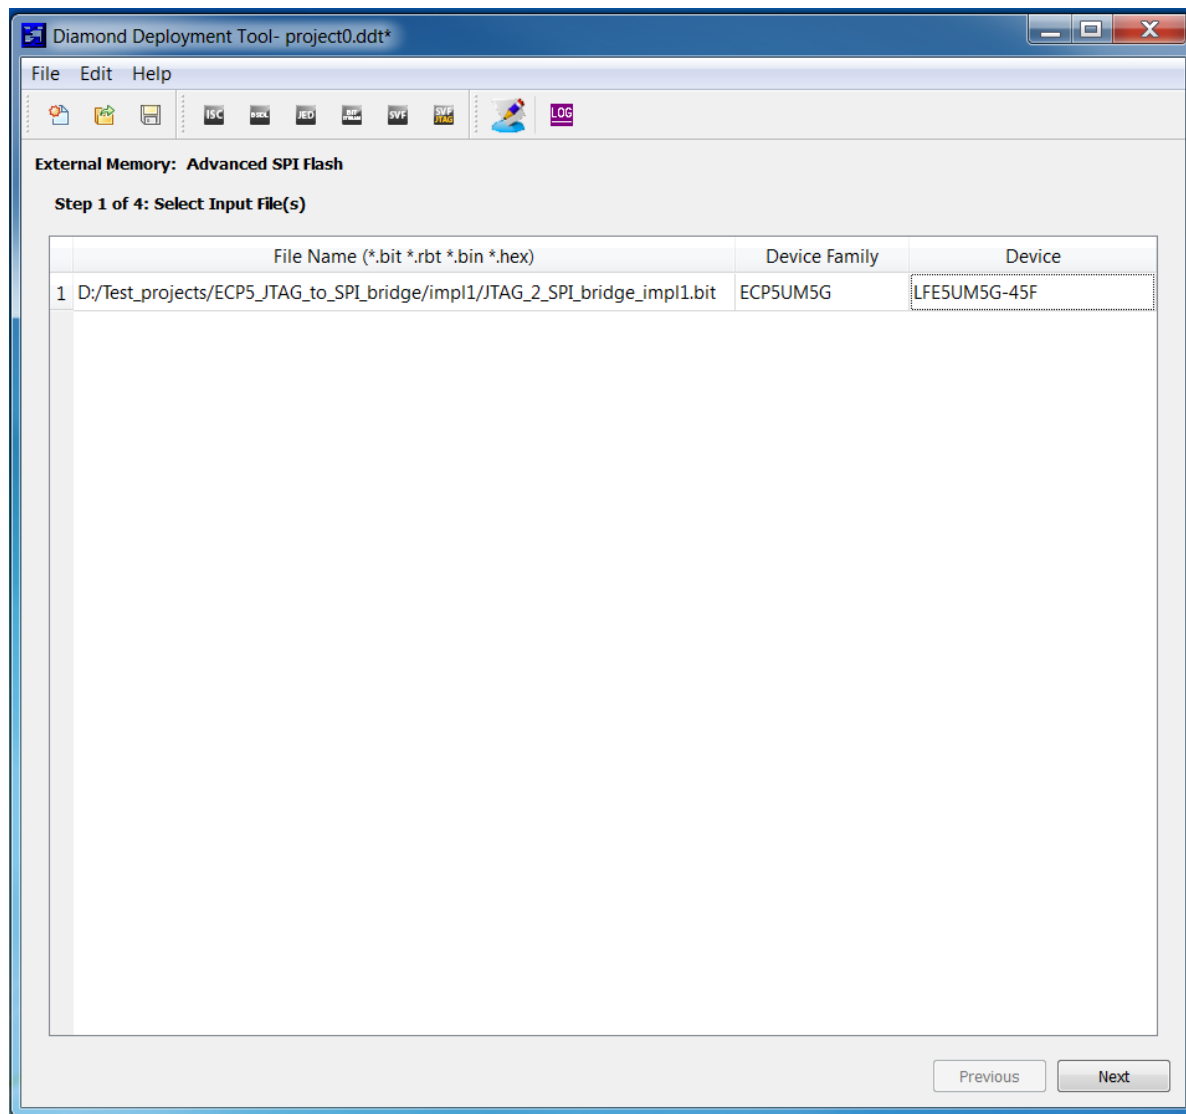

Figure 5.2. Step 1 of 4: Select Input File(s)
2. In **Step 1 of 4: Select Input File(s)**, shown in Figure 5.2, select the input file in **File Name**. The input file is a *.bit file. Click **Next**.